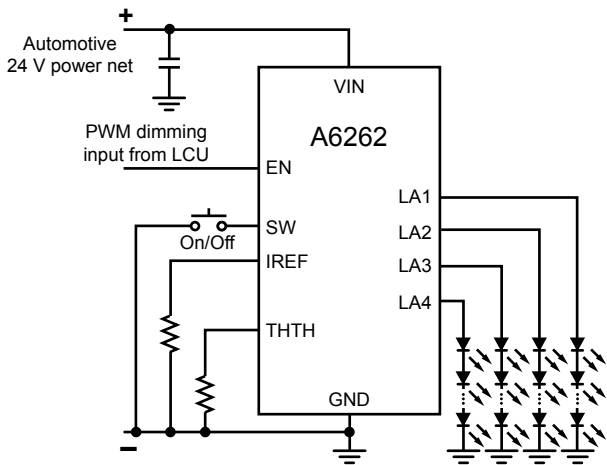

Figure 10. Typical applications using SW and EN together
**Operation with both EN and SW** In some applications it may be required to utilize the functionality of both the EN input and the SW input. For example, in dome lighting, where a manual switch may be used to turn the light on and the lighting control unit may dim the light to off (see figure 10). In these cases, it is important to understand the interaction of the two control inputs.